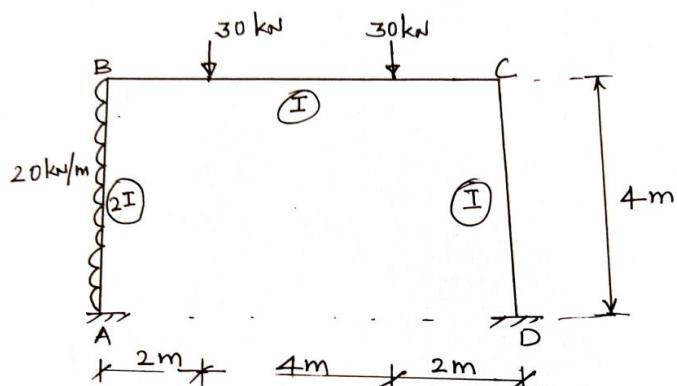

Fig Q3
3. Analyze the orthogonal rigid frame shown in Fig Q3 by slope-deflection method. Sketch the BMD and the elastic curve.